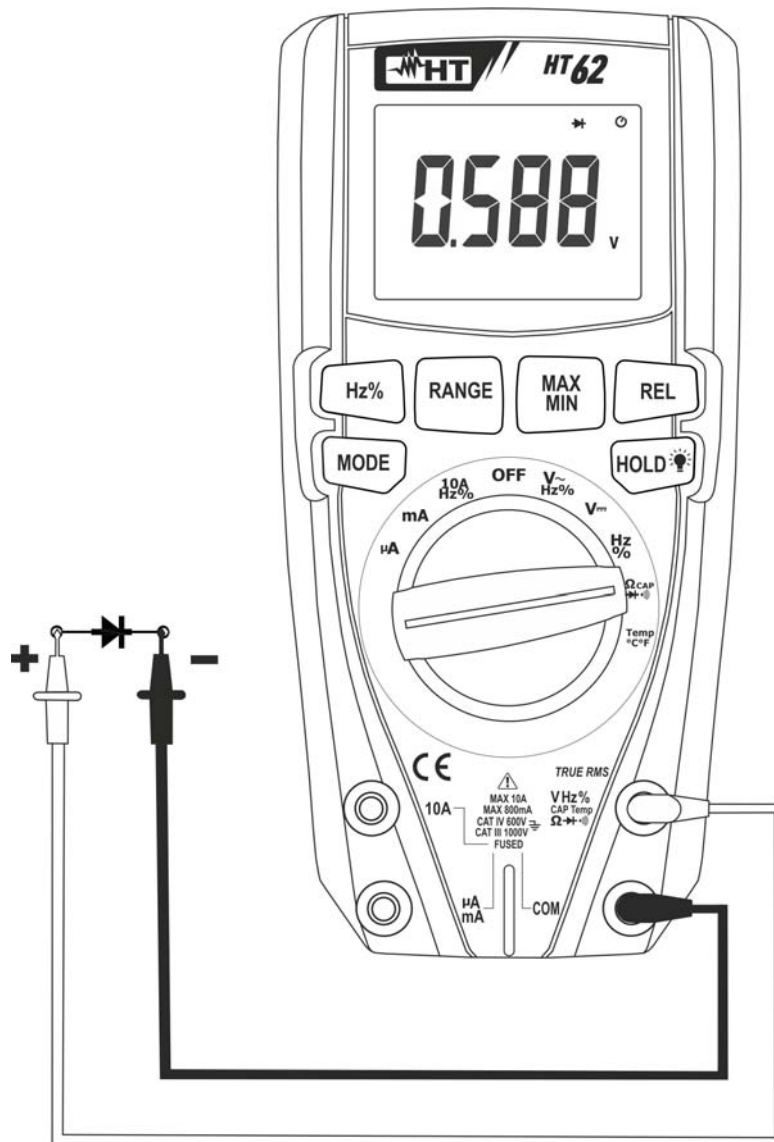

Fig. 6: Use of the instrument for diode test
4. Position the leads at the ends of the diode to be tested (see Fig. 6), respecting the indicated polarity. The value of directly polarized threshold voltage is shown on the display.
6. If the display shows the message "**O.L**", the terminals of the diode are reversed with respect to the indication given in Fig. 6 or the P-N junction of the diode is damaged.